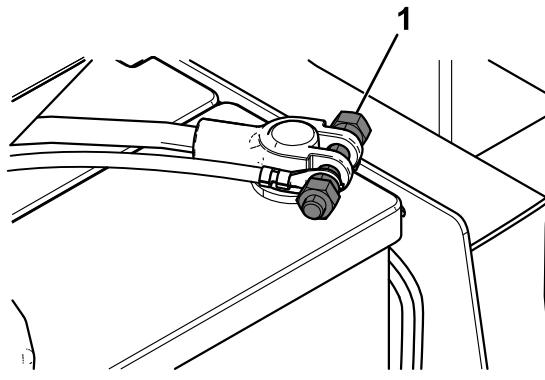

Figure 18
9. Remove the existing hardware on the battery terminals, and install the double-nut bolts (Figure 18).